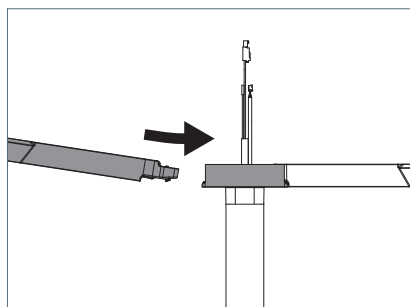

Fig. 14: Mounting luminaire head 2.
3. Insert the supporting arm of the second luminaire head tilted downwards slightly into the adapter to the stop, see Fig. 14.